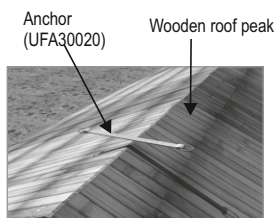

Fig. 1- Wooden roof structure on to which anchor is to be installed.
STEP 1: Place the anchor plate to match the surface it will be mounted on, either a roof peak or flat surface. Ref fig. 1.